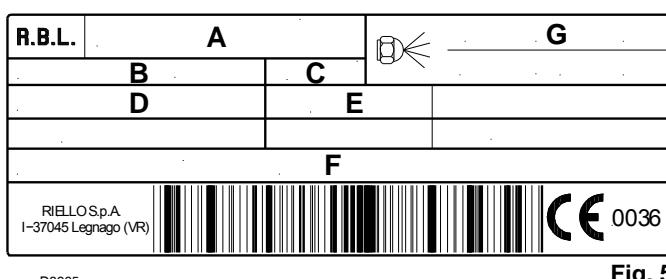

Fig. 5
- the model (see A in Fig. 5) and type of burner (B);
- the year of manufacture, in cryptographic form (C);
- the serial number (D);
- the electrical input power (E);
- the types of fuel used and the relative supply pressures (F);